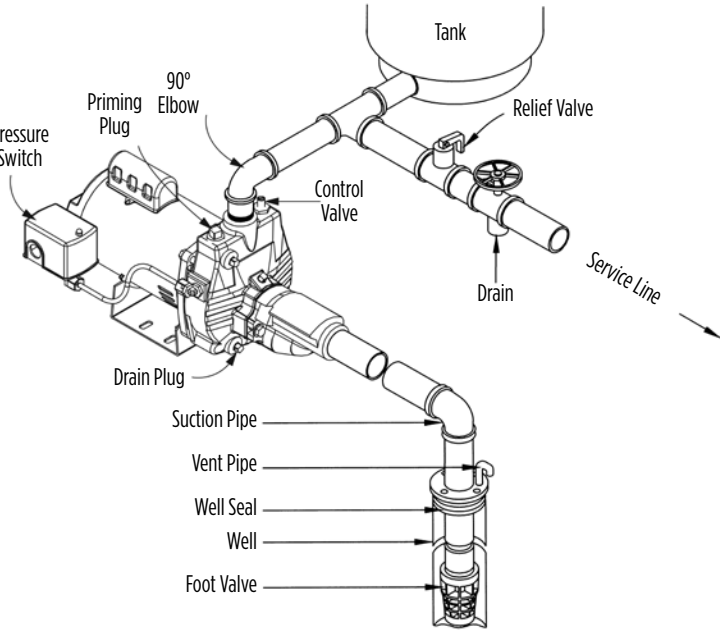
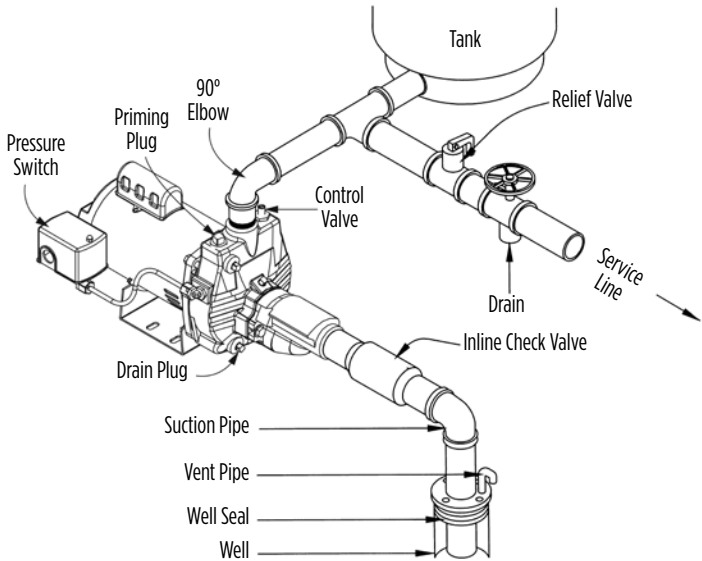

Fig.9a - SHALLOW WELL
Fig. 9b - SHALLOW WELL
13. If a pressure gauge is supplied with the pump or if you wish to install a pressure gauge, it should be installed into the 1/4" NPT hole on the front of the casing directly in front of the priming port. (See **Typical Installations** Fig. 9a, 9b, 9c or 9d.)
Shallow well installations use only a single pipe connecting the pump to the water supply. If your water table fluctuates and could reach pumping depths greater than 25 ft, follow the instructions for deep well applications. This pump can be used for drilled wells (see Fig. 9a) or driven wells (see Fig. 9b). Drilled wells are holes drilled into the ground by professional well drillers using a large rig. Driven wells use well points (also known as sand points), which is a long pointed tube with a screen that allows water to enter the pipe but keeps out sand and sediment. The injector assembly that comes with the pump is pre-assembled for use in wells down to 25 ft (7.6 m) and is installed **directly on the pump**.
3. There are two types of shallow well installations: drilled wells (see Fig. 9a) or driven wells (see Fig. 9b). Drilled wells are holes drilled into the ground by professional well drillers using a large rig. Driven wells use well points (also known as sand points), which is a long pointed tube with a screen that allows water to enter the pipe but keeps out sand and sediment. The water level in a driven well is fairly high or near ground level (maximum 30 ft [9.1 m]). Continue with the appropriate shallow well installation.
10. If a pressure gauge is supplied with the pump or if you wish to install a pressure gauge, it should be installed into the 1/4" NPT hole on the front of the casing directly in front of the priming port. (See **Typical Installations** Fig. 9a, 9b, 9c or 9d.)
11. If a pressure gauge is supplied with the pump or if you wish to install a pressure gauge, it should be installed into the 1/4" NPT hole on the front of the casing directly in front of the priming port. (See **Typical Installations** Fig. 9a, 9b, 9c or 89d.)